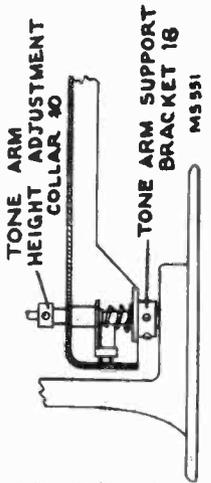

FIG. 9
2. With the pickup near the edge of the record, loosen the set screw, holding collar 47, fig. 9, and moving it up or down on shaft 47, so as to have the conditions indicated in sketch, fig. 5.